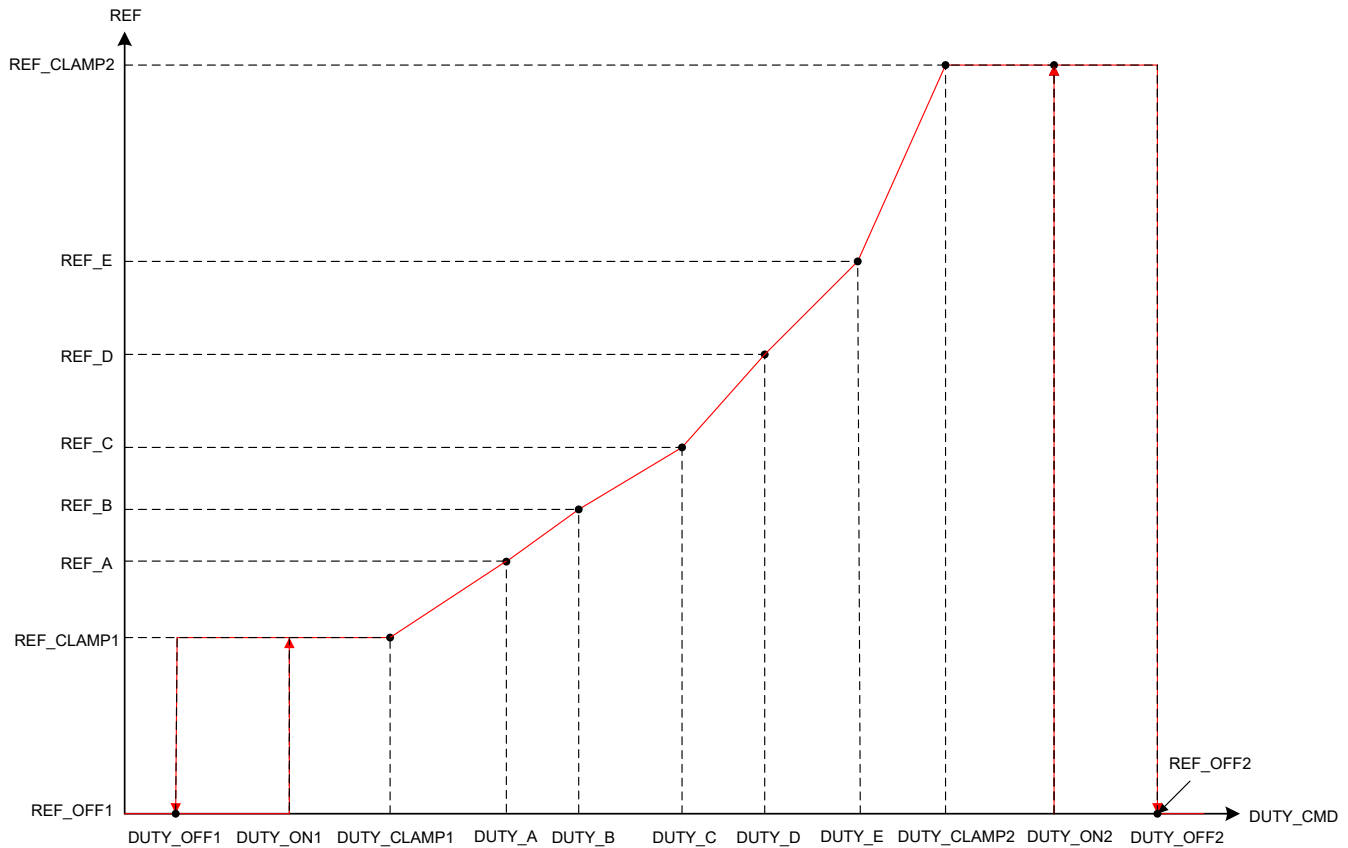

Figure 6-18. Linear Control Profiles
- DUTY_OFF1 and DUTY_ON1 configures a hysteresis around reference control input REF_CLAMP1 and REF_OFF1 as shown in Figure 6-18.
- DUTY_A configures the duty command for reference REF_A. The reference changes from REF_CLAMP1 to REF_A linearly between DUTY_CLAMP1 and DUTY_A. DUTY_A to DUTY_E has to be in the same order as shown in Figure 6-18.
- DUTY_OFF2 and DUTY_ON2 configures a hysteresis around reference control input REF_CLAMP2 and REF_OFF2 as shown in Figure 6-18.